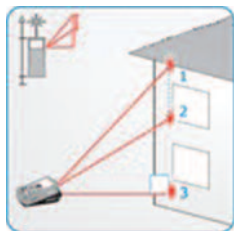

Figure 9
This setting is used to find the distance between two points using the subtraction of two heights. See Figure 9 below for further clarification. First, take the measurement at the top height (1). Then, take the measurement at the second height (2). Last, take the measurement at the horizontal (3). The meter will then show the distance between points 1 and 2 on the main display.